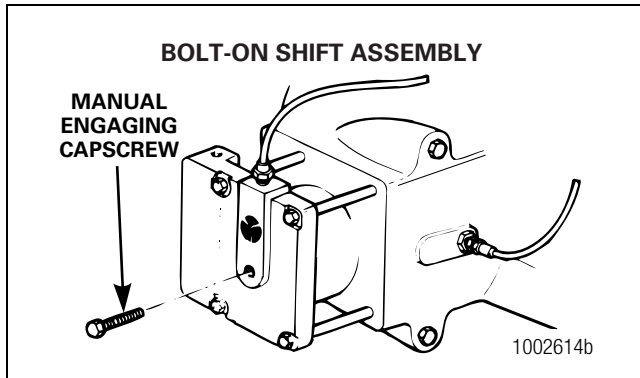

Figure 11.4
- A. Install the manual engaging capscrew into the threaded hole in the center of the cylinder cover. Turn the capscrew to the right three to five turns. Figure 11.4.
- A. Install the manual engaging capscrew into the threaded hole in the center of the cylinder cover. Figure 11.4.